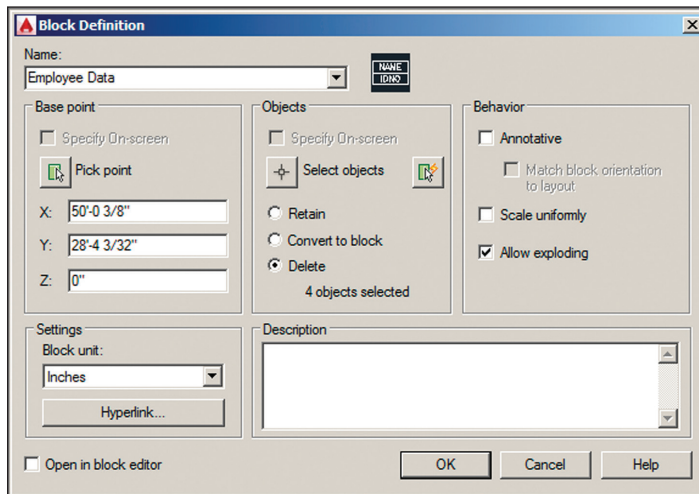

FIGURE 15.12 Defining a block with attribute definitions
13. Click the Select Objects icon, click the NAME attribute definition, and then click IDNO. Select both rectangles and press Enter. Click the Delete radio button in the Objects area of the Block Definition dialog box and select Inches (or Centimeters) in the Block Unit drop-down menu (see Figure 15.12). Click OK, and the attribute definitions and geometry disappear as expected.